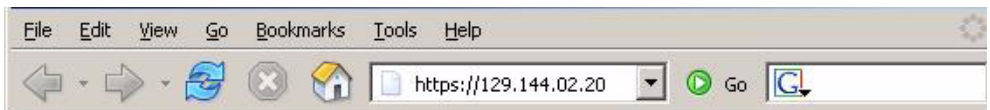

FIGURE 2-1 Opening a Session With a Web GUI
- To establish a connection to the Embedded LOM SP web GUI, type the IP address of the SP in the browser locator box and press Enter. For example, assume that the IP address for your SP is 129.144.02.20. See the example in FIGURE 2-1.